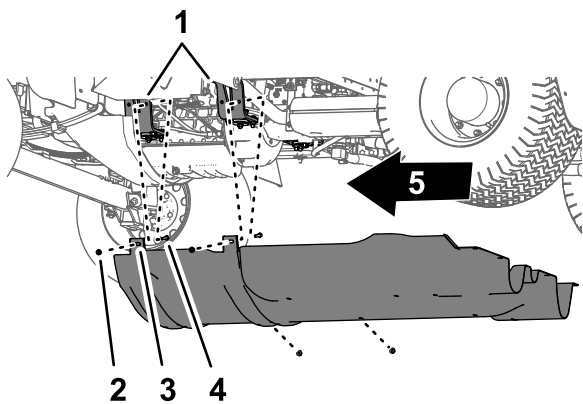

Figure 60
2. Remove the 4 flange locknuts (5/16 inch) from the bolts and carriage bolt that secure the mounting tabs of the undercarriage shroud to the engine-mount brackets of the machine (Figure 60).
4. Remove the undercarriage shroud from the machine (Figure 59 and Figure 60).
1. Align the undercarriage shroud to the bottom chassis of the machine; refer to Figure 60 in Removing the Undercarriage Shroud (page 50).
2. Move the mounting tabs of the undercarriage shroud over the bolts and carriage bolt at the engine-mount brackets of the machine; refer to Figure 60 in Removing the Undercarriage Shroud (page 50).
3. Assemble the undercarriage shroud to the engine-mount brackets and bolts (Figure 60) with the 4 flange locknuts (5/16 inch) that you removed in step 2 of Removing the Undercarriage Shroud (page 50).